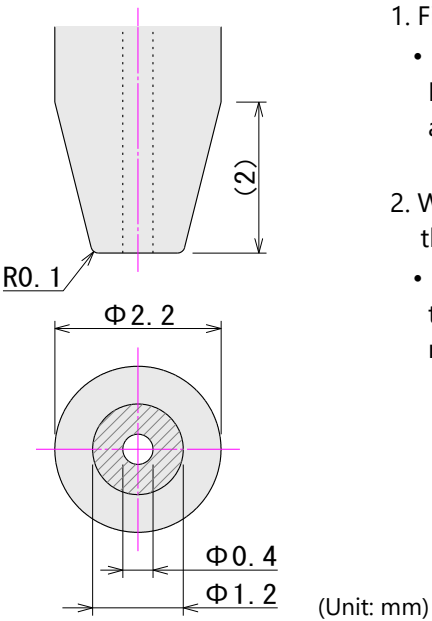

Figure 3. Recommended Nozzle Dimensions
- Figure 3 shows the recommended dimensions for the pick-and-place nozzle.
- When setting the LED pick-up position, ensure that the center of the nozzle and the center of the emitting area of the LEDs are aligned (See Figure 3). Do not apply excessive force to the emitting area when picking up the LEDs.